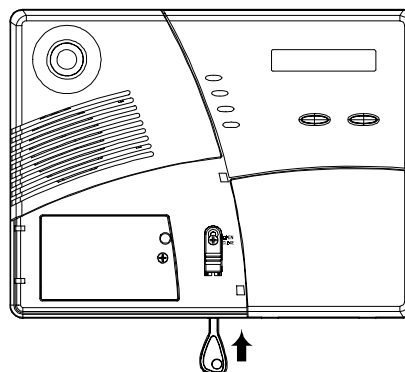

Figure 30. Releasing the Catch
- Insert the bracket release key, supplied with the PowerMax kit, as far as it will go into the hole at the bottom of the unit (see Figure 30). This action frees the catch from the trap.